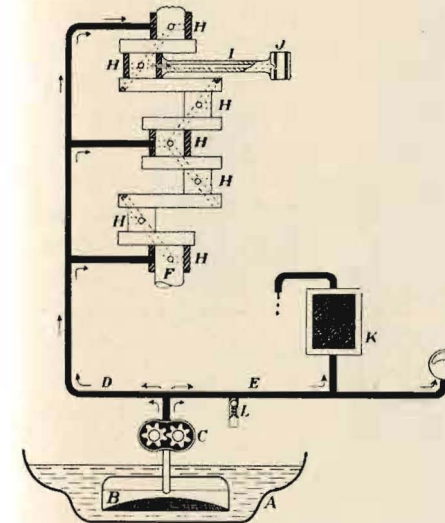

Fig. 13.—Engine lubrication system.
**21. Oiling System.** Fig. 13 shows some of the details of the oiling system of an automobile engine. A is the crank-case or sump which should be filled with oil to the level specified by the manufacturer. B is a screen to pre-
**30. Importance of oil pressure gauge.** A failure of the oil pressure gauge (Fig. 13) to register means, in all probability, that oil is not being supplied to the moving parts of the engine and consequently the engine should be stopped until the fault is located and corrected.